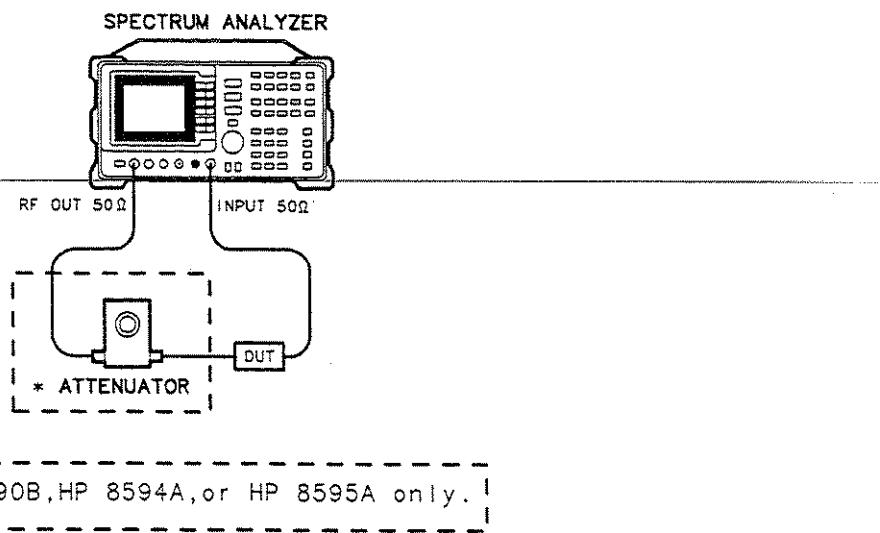

Figure 2-36. Transmission Measurement Test Setup
2. To measure the rejection of a low-pass filter, connect the equipment as shown in Figure 2-36. This example uses a filter with a cut-off frequency of 300 MHz as the DUT.